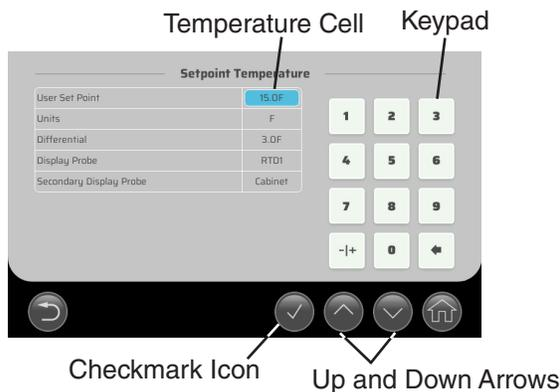

Fig. 16
- 3) Press the User Set Point temperature cell. See Fig. 16.